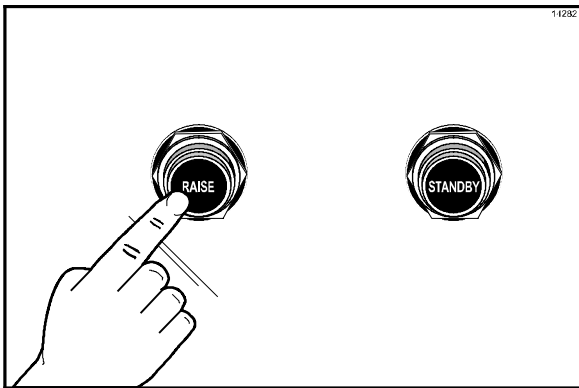

Figure 38
1. Raise the upper platen to the OPEN position by pressing the red RAISE key. (See Figure 38.)